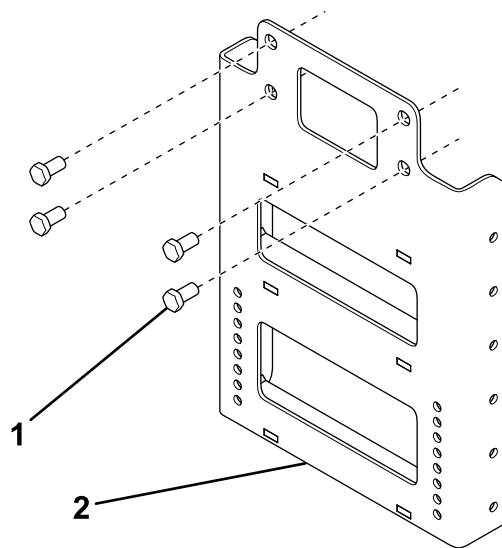

Figure 1
3. Using 4 bolts (M18), secure the front plate to the frame as shown in Figure 1.